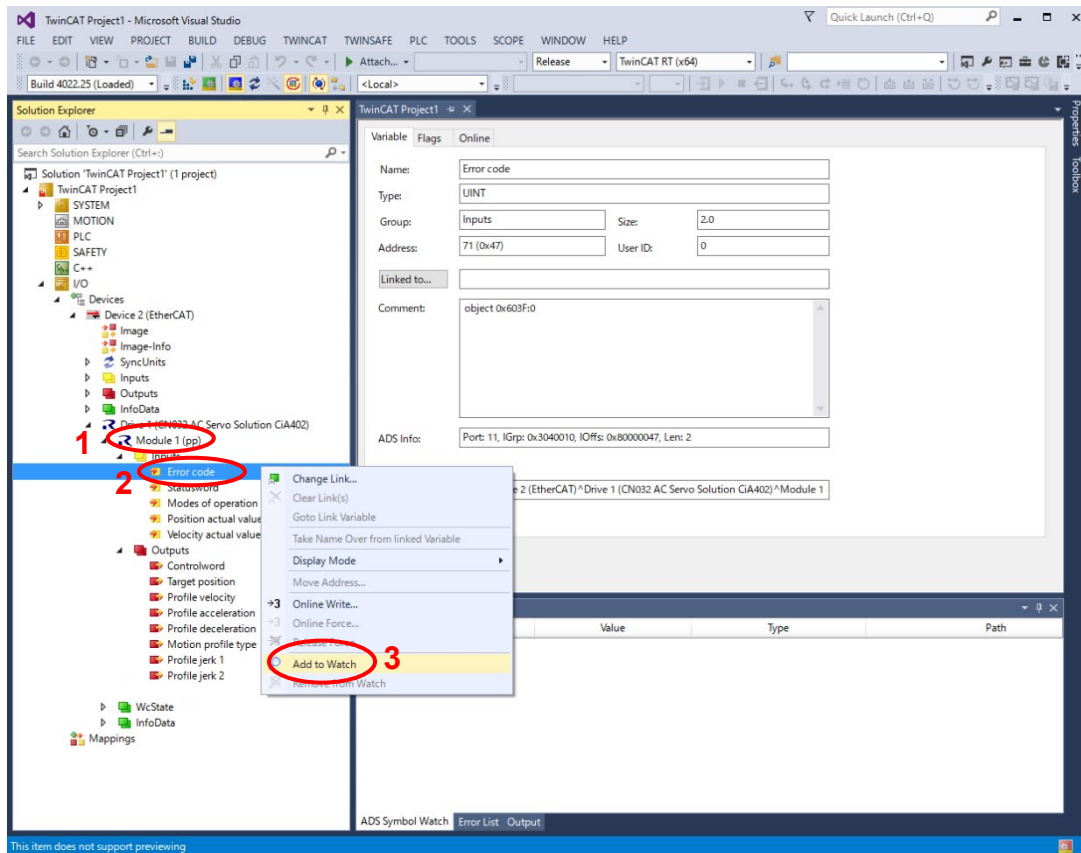

Figure 4-9 Adding values to a watch
Make sure Module 1 is applied to the operation of Profile position mode (1). Expand the “Drive x (CN032\_AC\_Servo\_Solution\_CiA402)” tree and expand “Module 1” as far as possible as shown in Figure 4-9. For the sake of comfort add the input values to an extra watch window by right-clicking at a value (2) and selecting “Add to watch” (3).